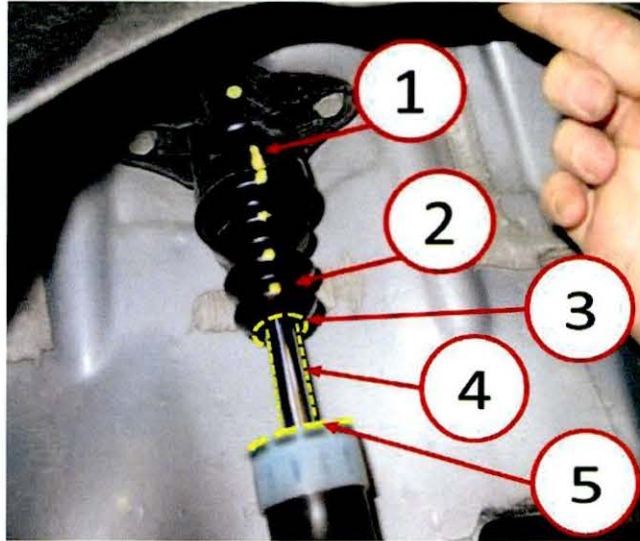

Fig. 6 Apply Nye Grease
12. Install the jounce bumper into the upper mount aligning the indicator marks of the upper shock mount and the jounce bumper (Fig. 6).
13. Apply Nye Grease, P/N 05019061AA to the bottom/small end face of the jounce bumper (3), shock shaft (4) and top of the shock striker cap (5) (Fig. 6).